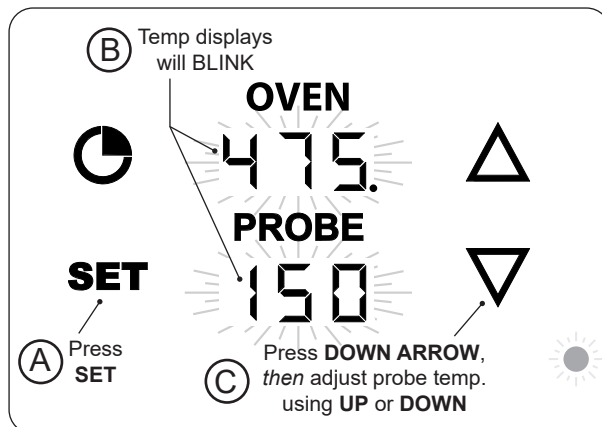

Fig. 39-2 Set probe temperature
1. With the thermometer/thermostat **on** and the meat probe plugged in, press the **SET** button once. The oven and probe displays will blink. (While blinking, either area can be selected to enter their settings.) See Fig. 39-2, A and B.
2. Press the **DOWN ARROW** to select the probe settings, then you may use the up or down arrows to set the desired temp (Fig. 39-2, C).